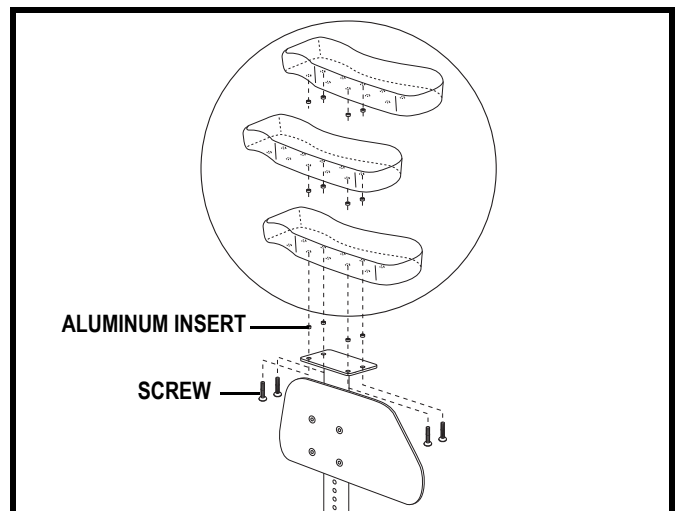

Figure 18. Armrest Pad Depth Adjustment
You can also adjust the depth of the armrest pads. See **figure 18**.
1. Remove the four screws and their four aluminum inserts from the bottom of the armrest pad. See **figure 18**.